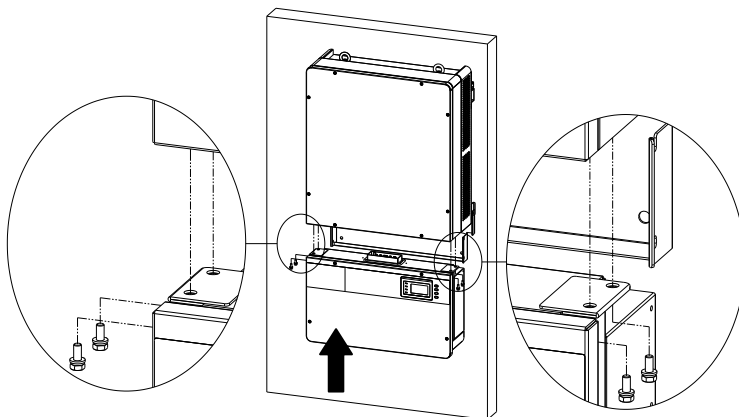
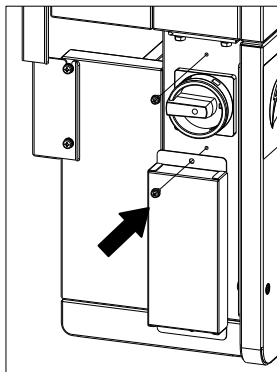

Figure 3-10 Installation of the wiring box
Figure 3-12 Attach the cover board to the left side of the wiring box
Save the cover board and screws, and fix the board on the left side of the wiring box after the wiring box is attached to the inverter housing (see step 6, Figure 3-12)
- ③ Insert the wiring box to the main housing, and use M6x12 screws (4pcs) to attach the wiring box to the inverter housing. (see Figure 3-10)
(6) Attach the cover board shown in Figure 3-10 to the left side of the wiring box. (see Figure 3-12)